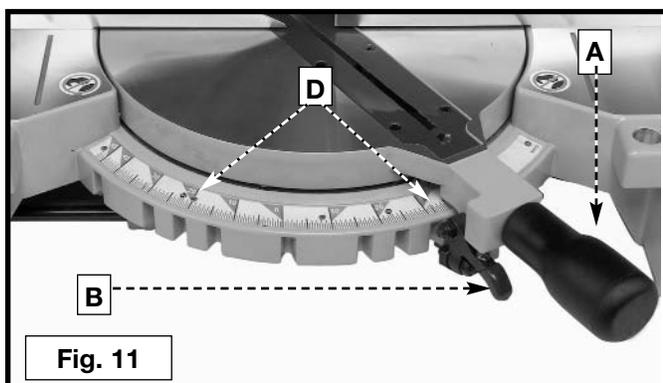

Fig. 11
Your miter saw will cut any angle from a straight 90° cut to 47° right and left. Loosen the lock handle (A) Fig. 11 one or two turns, depress the index lever (B), and move the control arm to the desired angle. **TIGHTEN THE LOCK HANDLE (A).**
The miter saw is equipped with positive stops at the 0°, 15.0°, 22.5°, 31.62° and 45° right and left positions. Loosen the lock handle (A) Fig. 11, and move the control arm until the bottom of the index lever (B) engages into one of the positive stops (C) Fig. 12. **TIGHTEN THE LOCK HANDLE (A) Fig. 11.** To disengage the positive stop, depress the index lever (B).
In addition, an indicator (D) Fig. 11 is provided on the miter scale at the 33.9° right and left miter positions for cutting crown molding. (Refer to the “**CUTTING CROWN MOLDING**” section of this manual).
IMPORTANT: Always tighten the lock handle (A) Fig. 11 before cutting.